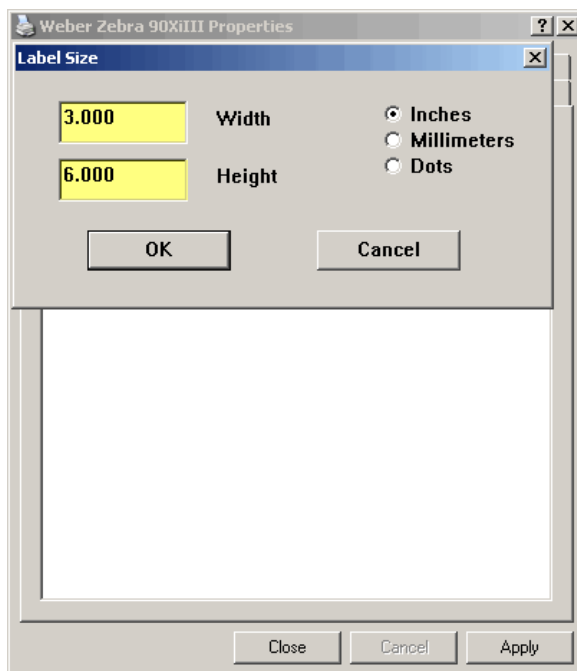

Figure 30a
34. Change the label settings from the existing values to 20 inches by 20 inches, (Figure 30a, b) and click OK.